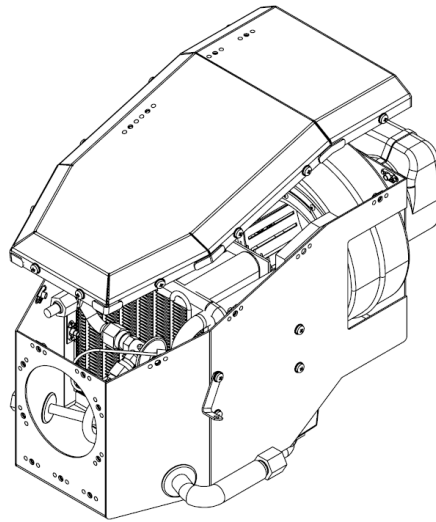

Figure 6: Evaporator Assembly (Remove Lid for accessibility)
- 1) Prepare evaporator for modification by removing and retaining attaching hardware (12X) MS27039-1-08 screws, (12X) NAS1149F0332P washers and evaporator lid. (Figure 6)